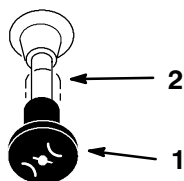

Figure 4
- After the engine starts, move the choke to “OFF” (Fig. 4). If the engine stalls or hesitates, move the choke back to “ON” for a few seconds. Then move the throttle lever to desired setting. Repeat this as required.